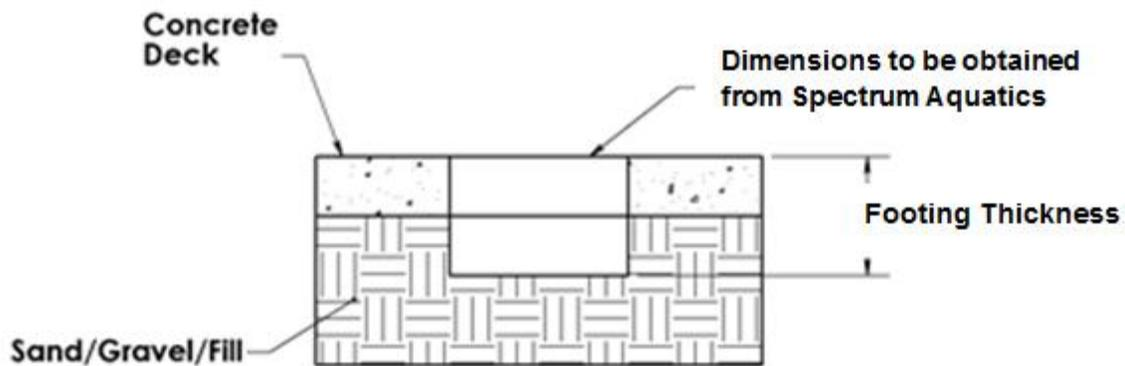

Figure 1
- b) Use a concrete cutting saw; cut the square out of the existing concrete deck. Using a heavy/sledge hammer to break the cut section of concrete – remove the section of concrete from the deck. See Figure 1.